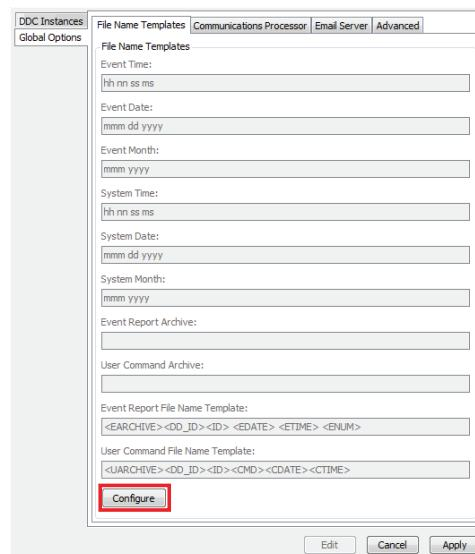

Figure 46 TEAM Global Options Window
- Step 3. Select the **Configure** button, highlighted in *Figure 46*, under the **File Name Templates** tab. This opens the **Global Options Wizard**.